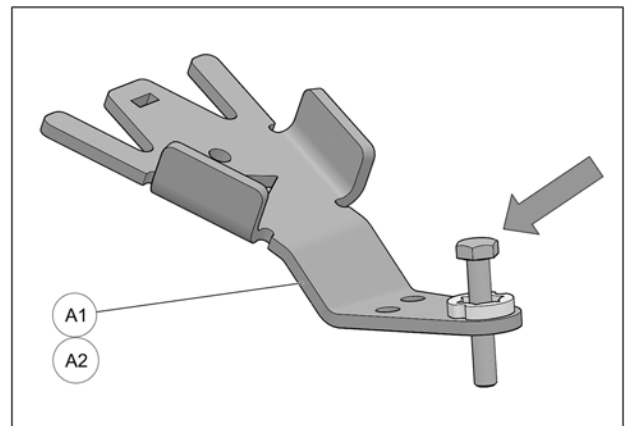

Fig. 16
6. Insert bolt in front anchor brackets (A1-A2) as shown in Fig. 16